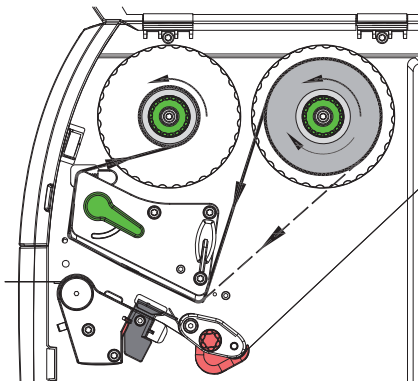

Figure 14 Transfer ribbon feed path
2. Turn lever (6) counterclockwise to lift the printhead.
3. Slide transfer ribbon roll (1) onto the ribbon supply hub (2) so that the color coating of the ribbon faces downward when being unwound.
5. Hold transfer ribbon roll (1) firmly and turn knob on ribbon supply hub (3) counterclockwise until the transfer ribbon roll is secured.
6. Slide suitable transfer ribbon core (4) onto the transfer ribbon take-up hub (5) and secure it in the same way.
7. Guide transfer ribbon through the print unit as shown in Figure 14.
8. Secure starting end of transfer ribbon to the transfer ribbon core (4) with adhesive tape. Ensure counterclockwise rotation direction of the transfer ribbon take-up hub here.
9. Turn transfer ribbon take-up hub (5) counterclockwise to smooth out the feed path of the transfer ribbon.
10. Turn lever (6) clockwise to lock the printhead.